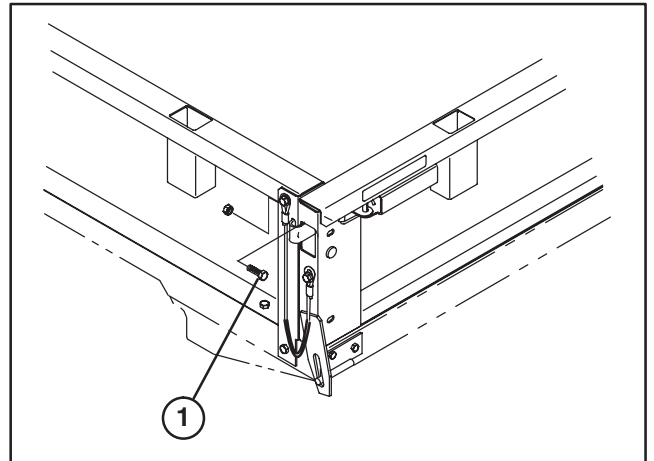

Figure 11
5. When mounting a core harvester on bed, secure left end of front panel and front end of left side panel together with a 5/16–18 x 7/8" lg. carriage bolt and flange (Toplok) locknut, as shown in figure 11. Right corner may be secured if desired.